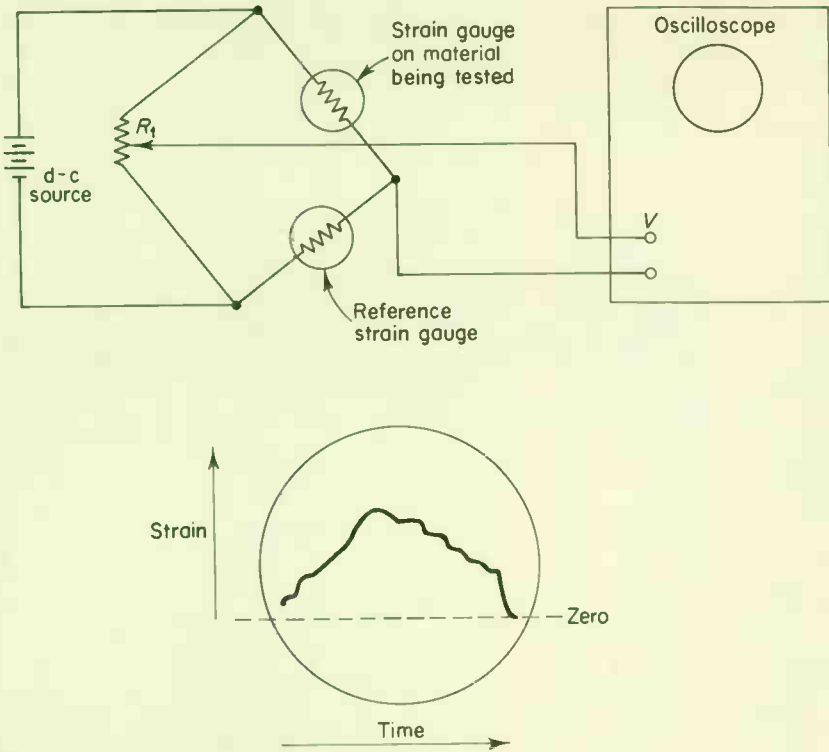

Fig. 12-6. Measuring strain with oscilloscope.
As shown in Fig. 12-6, the strain gauges are connected in a bridge circuit, the output of which is applied to the oscilloscope vertical channel. The bridge is balanced under no-strain conditions with potentiometer  $R_1$ . One strain gauge is placed on the material or structure to be tested; the other identical strain gauge is used as a reference. The oscilloscope is not deflected when the bridge is balanced (no-strain). When the material or structure is stressed, the resistance of the attached strain gauge is changed. This unbalances the bridge and produces a d-c output that is proportional to the change. The d-c output deflects the oscilloscope vertical trace, and produces a plot of strain versus time. The bridge circuit can be calibrated in terms of strain (microinches of variation per inch-ounces of applied force), or strain versus voltage deflection, or whatever proves convenient for the particular test. The entire trace can be photographed for a permanent record.
1. Connect the equipment as shown in Fig. 12-6.